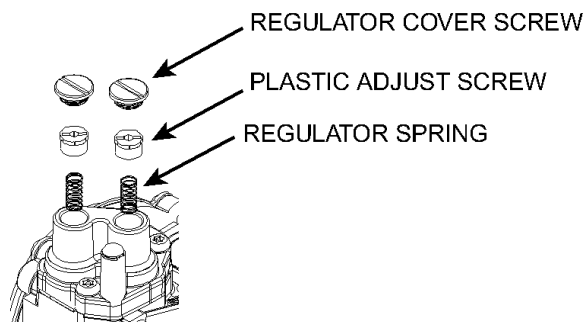

Figure 23:
- a. Remove the regulator cover screw from the gas valve. Refer to Figure 23.